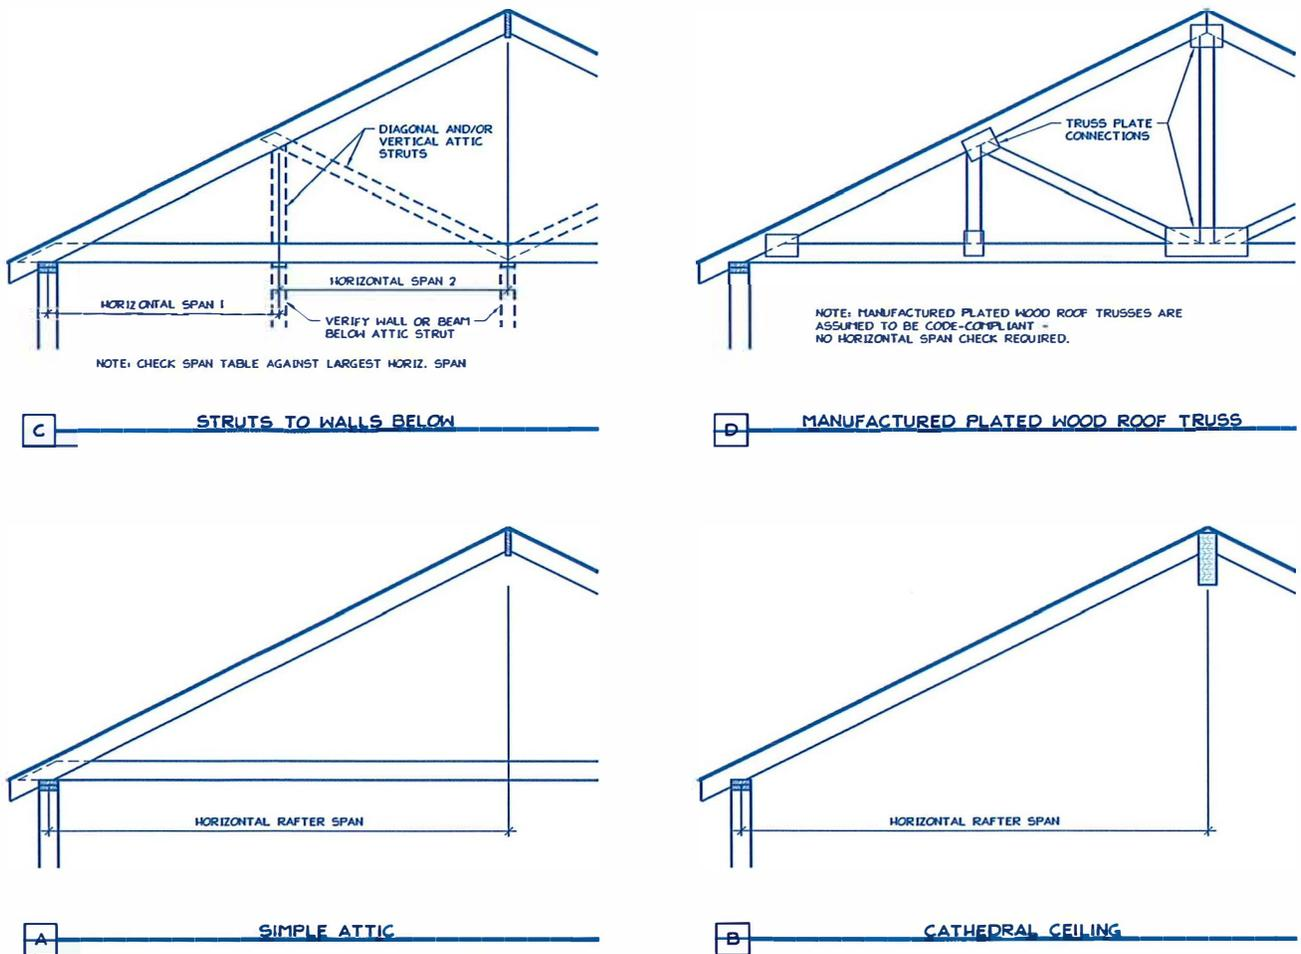

Figure 4. Definition of Rafter Horizontal Span.
- 5) Measured rafter horizontal span (see Figure 4): _____ "ft-in
1. See Figure 4 for definition of roof rafter maximum horizontal span.